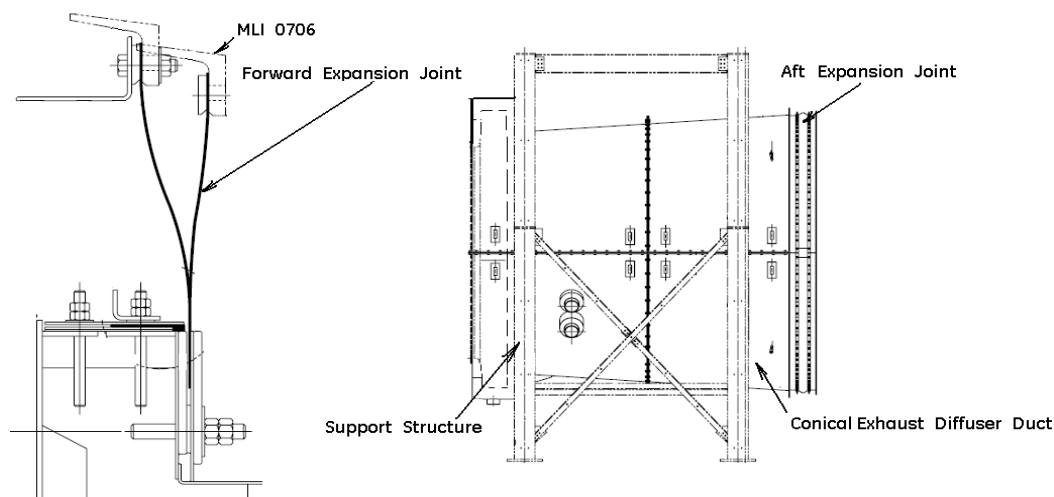

Figure 1. Typical F and HA class MLI A042 Arrangement
- F and HA class A042 arrangement (See Figure 1)